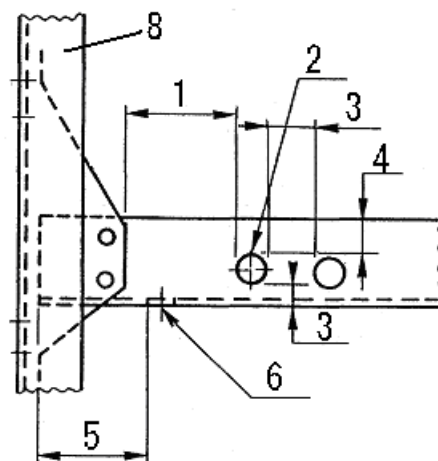

Fig. 2
- Holes in the web of the channel type crossmember should be 50 mm min. from the end of the crossmember. (Refer to Fig. 2)